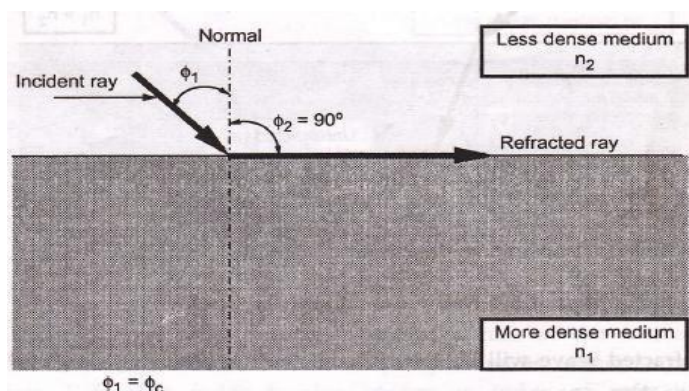

Fig.1.6.5 Critical
- The **critical angle** is defined as the minimum angle of incidence (Φ_1) at which the ray strikes the interface of two media and causes an angle of refraction (Φ_2) equal to 90° . Fig 1.6.5 shows critical angle refraction.